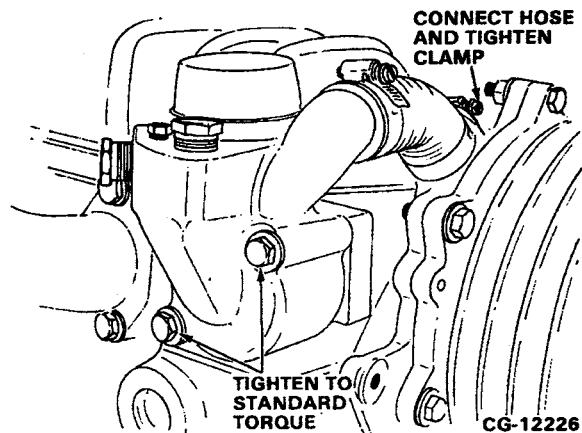

Figure 10.29. Install the Thermostat and Housing
2. Attach the thermostat housing to the cylinder head using the two bolts and washers. Connect the hose to the front cover. Refer to Figure 10.29.